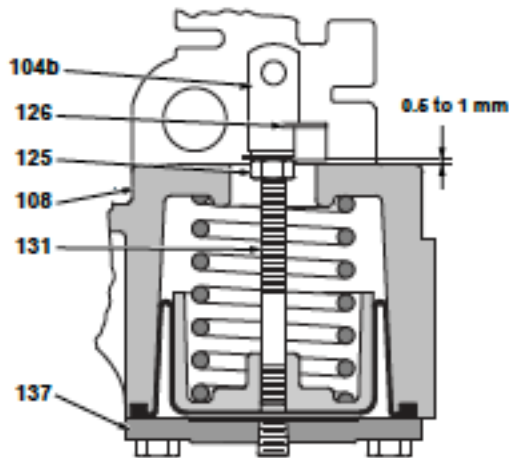

Figure 14 - Piston rod clevis (104b) adjustment
4.1.1 Adjusting the piston rod clevis on the VariPak 28001 single-lever valve (Figures 14 and 26)
4.1.2 Adjusting the piston rod clevis on the VariPak 28002 adjustable- C_v valve (Figures 14 and 27)